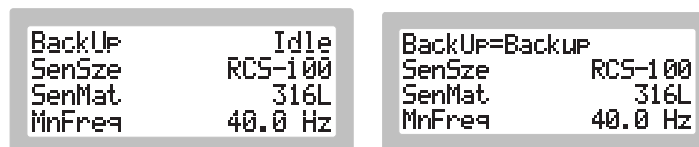

Figure 73: Backup triggered from menu
5. When in editing mode, a cursor will appear under the enumeration text shown to the right of the parameter name. Use **Up** or **Down** to switch the entry from *Idle* to *Backup* (see Figure 73).